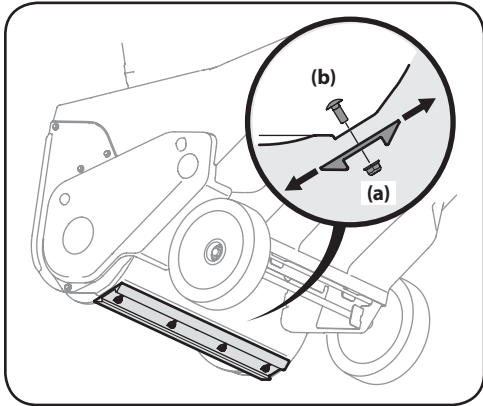

Figure 4-2
- Loosen the four flange lock nuts (a) and carriage screws (b) which secure the shave plate to the housing. See Figure 4-2. Move the shave plate to the desired position and retighten the flange lock nuts (a) and carriage screws (b) securely.
4. Remove the four carriage screws (b) and flange lock nuts (a) which attach it to the snow thrower housing. See Figure 4-2.